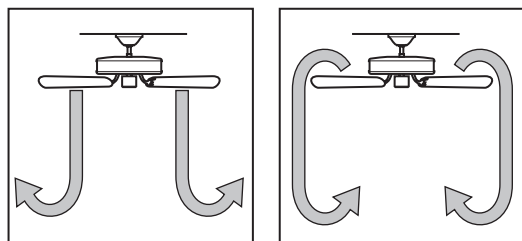

Figure 31 - Air flow patterns
2. Ceiling fans work best by blowing air downward (counterclockwise blade rotation) in warm weather to cool the room with a direct breeze. In winter, having the fan draw air upward (clockwise blade rotation) will distribute the warmer air trapped at the ceiling around the room without causing a draft. Refer to Figure 31.